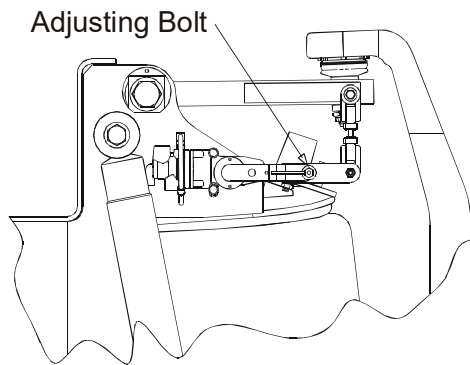

Figure 19 – Hadley Height Control Valve Adjustment.
3. Loosen adjusting bolt (see Figures 19 and 20) on actuation arm.